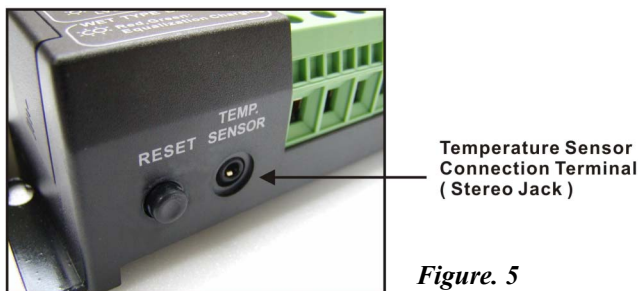

Figure. 5
1. Open the case of the controller, there should be a small control board near the Remote Signal Terminal as shown in figure 5.